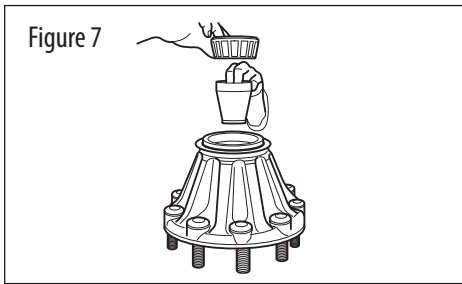

Figure 7
2. For Steer hubs, install the tubular bearing spacer with the tapered end down (see Figure 7).